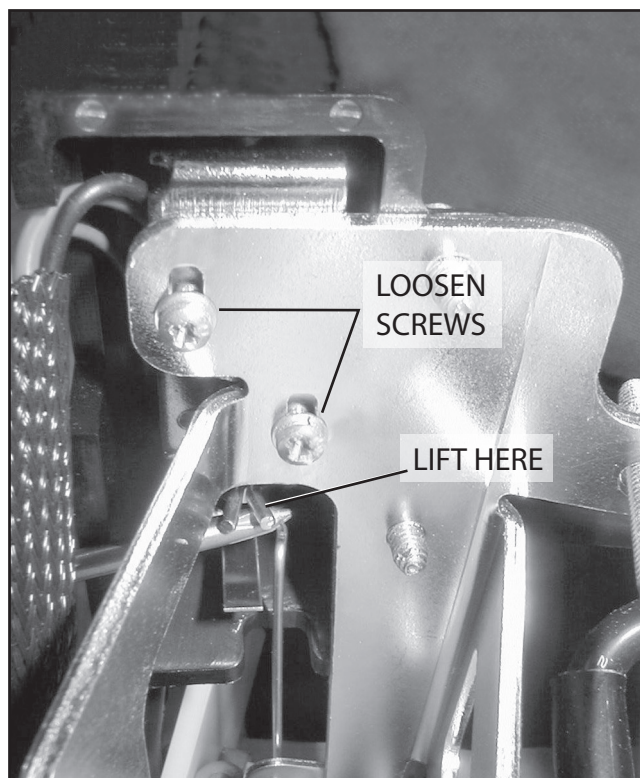

Figure 7-33. – Choke Assembly Adjustment
- a. Using a screw driver or similar tool, lift the choke solenoid at the retaining clip as shown in Figure 7-33. Do NOT lift at the BI-METAL HEATER ASSEMBLY .